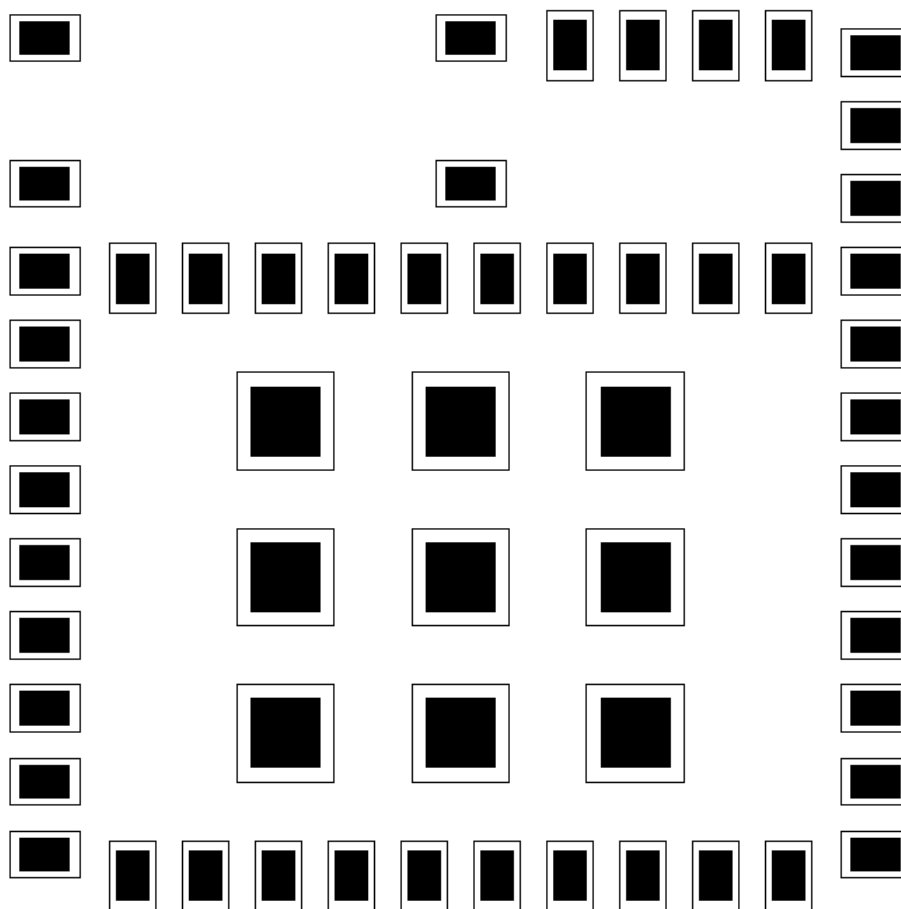

Figure 2.2. Example of PCB Land Pattern with 80% Paste Coverage Overlay
3. The ratio of stencil aperture to land pad size should be 1:1 for the perimeter pads. A more conservative approach would be 80% as illustrated in Figure 2.2.